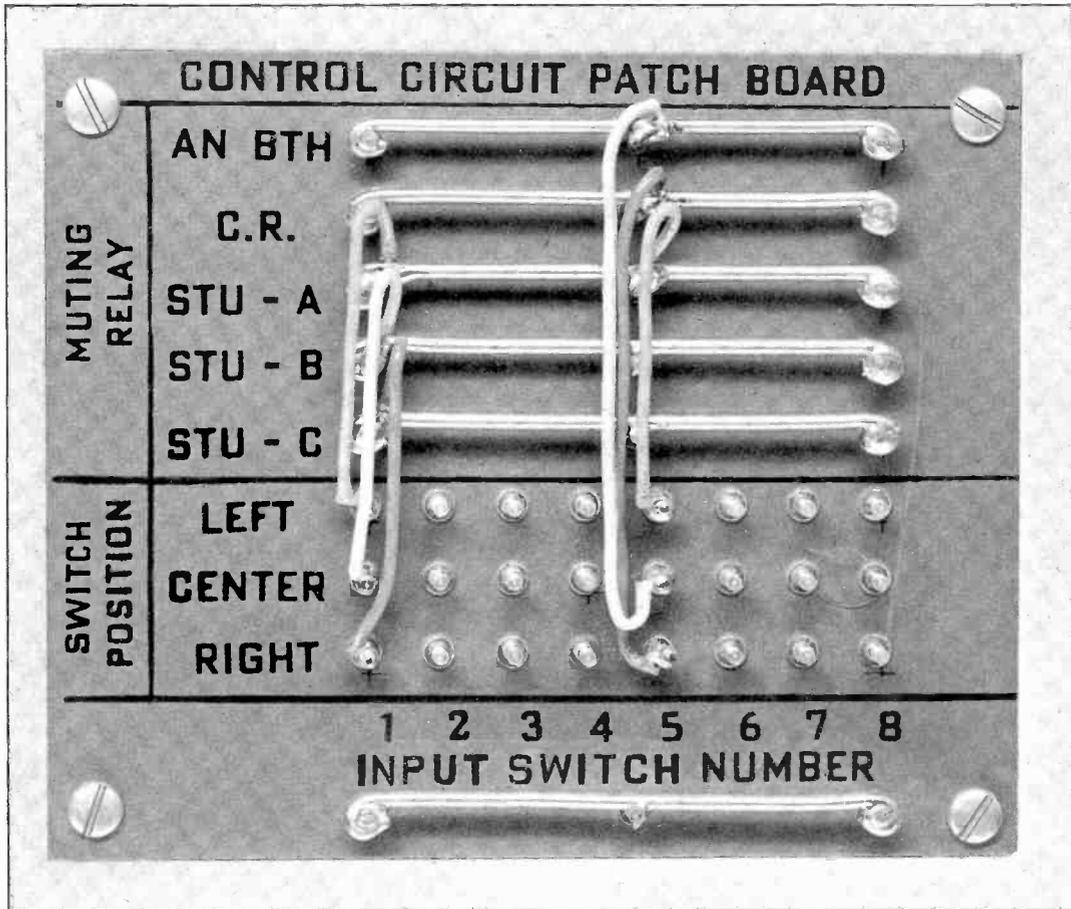

Figure 16. Control Circuit Patch Board
* The heart of the flexibility of the control circuit system is the descriptively labeled, pictorially laid out, control circuit patch board. When the main panel is opened for access to the plug-in units a small control panel is seen conveniently located at the top front of the panel in a horizontal position. See figure 16.